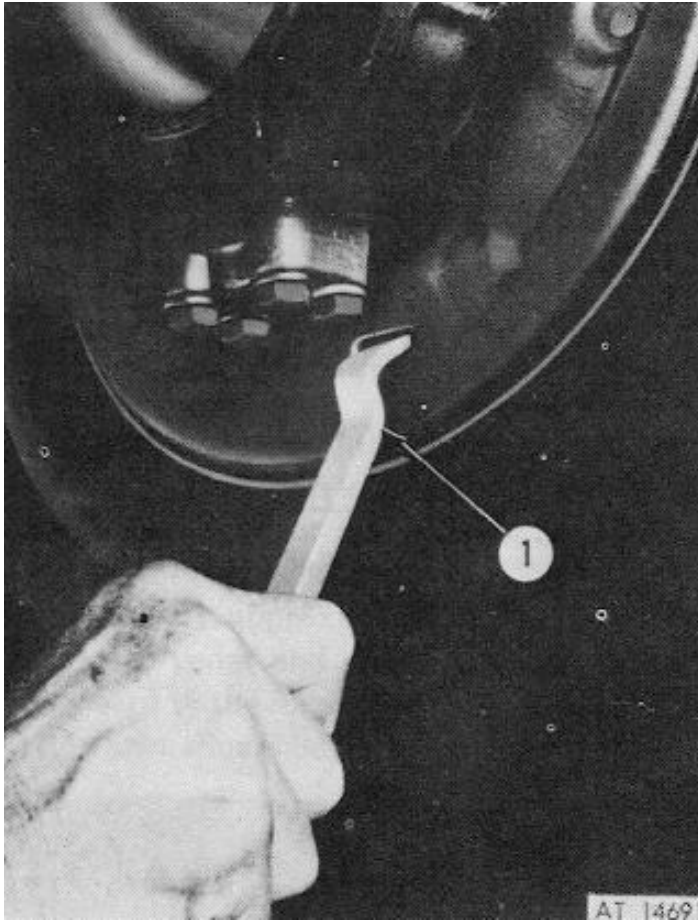

Figure 2-78. Brakeshoe adjustment
a. Service Brake Adjustment. (Fig 2-78)
(1) Centralize the brakeshoes in the drums by depressing the brake pedal hard and then releasing it. Since the brakes are of the self-centering type, they require no anchor adjustments.
(2) Hoist all four wheels off the ground.
(3) Remove the adjusting hole dust clip from the back of the brake backing plate.
(4) Use Brake Adjusting Tool to turn the star wheel. Raise the handle of the tool to tighten the shoes against the drum.
(5) When the brakeshoes are tight against the drum, turn the star wheel in the opposite direction until the vehicle wheel just rotates freely without brake drag.
(6) Repeat the above procedure for all four wheels.